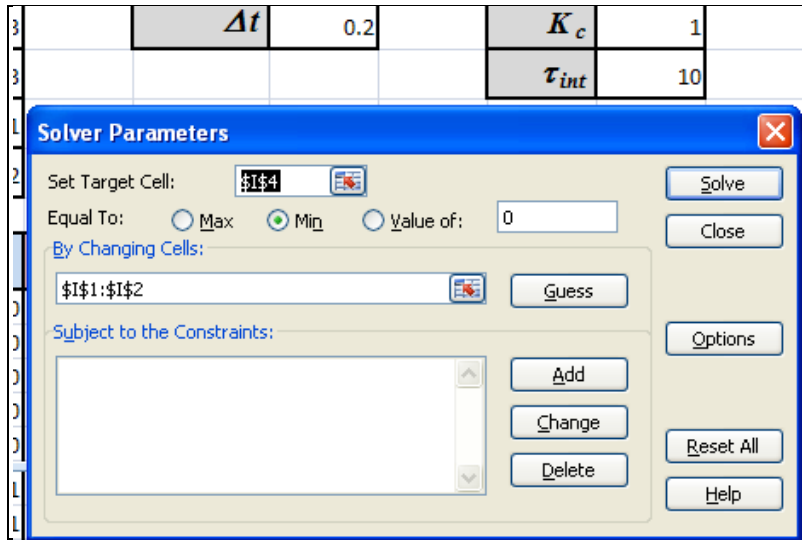

Figure 3.
5. Use solver to minimize the RMS error by adjusting K_c and τ_{int} . (see Figure 3).